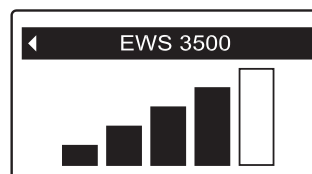

FIG. 101
Begin by checking the signal strength between the conditioner/refiner and the remote. If the signal is weak (2 bars or less on the display shown in Figure 101), move the remote to a different location to try improving the signal strength.
4. Press the SELECT (○) button, and the screen shown in Figure 101 will appear. The more bars that are filled in black, the stronger the signal. The signal strength display updates every 15 seconds.